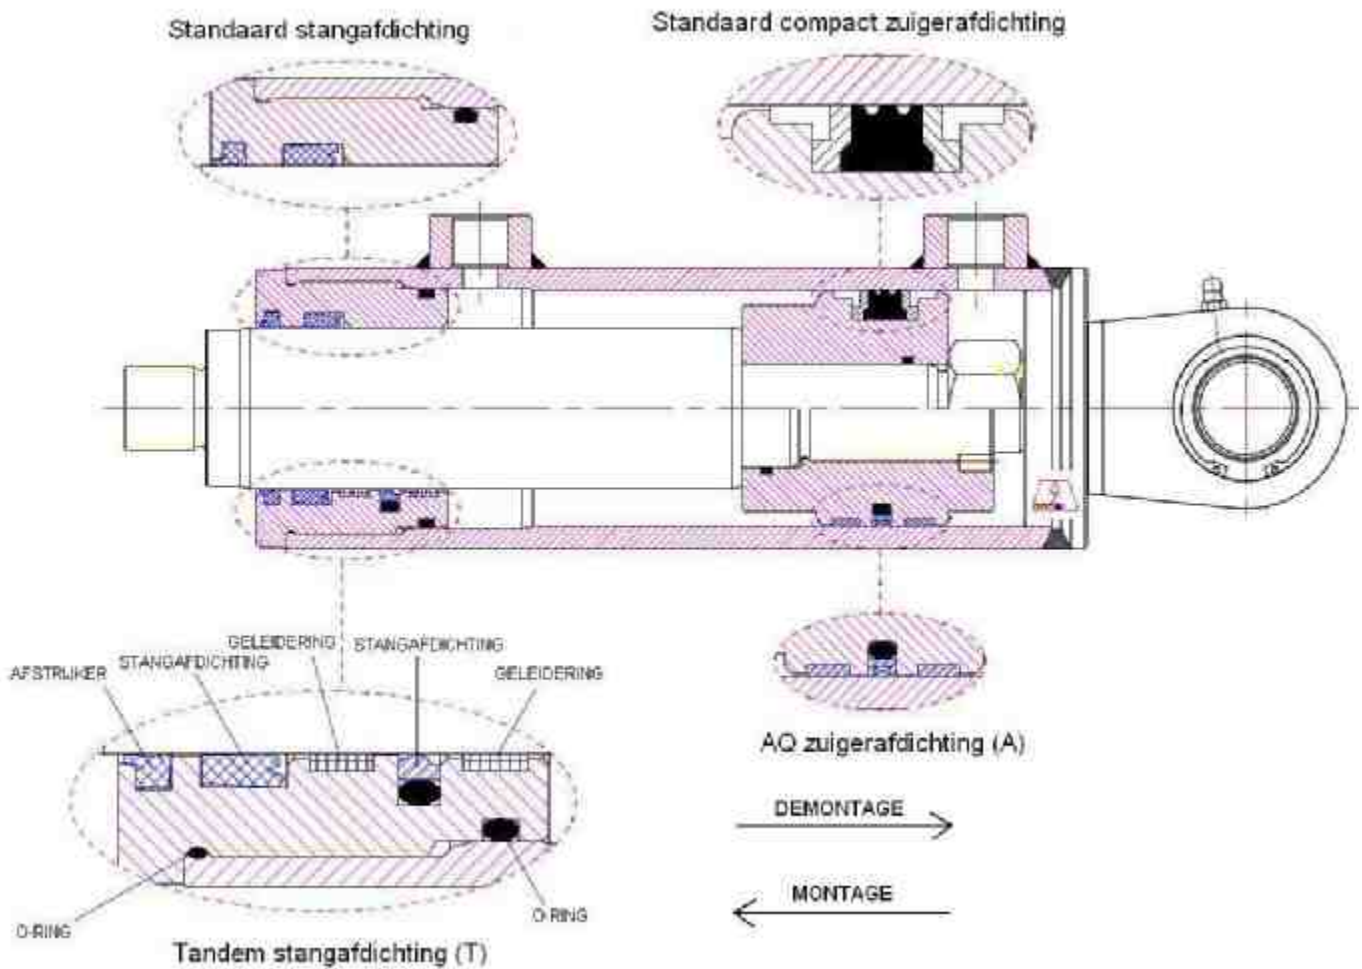

Figure 2. Names of the seals
- Pay attention to the proper orientation of the seals during assembly. (See figure 2)
Use the correct seal set for the cylinder you are working on, and replace the seals and O-rings on the piston and guide. For correct placement of the seal, see figure 2. Make sure there is no damage on the rod or seat that may damage the new seals.